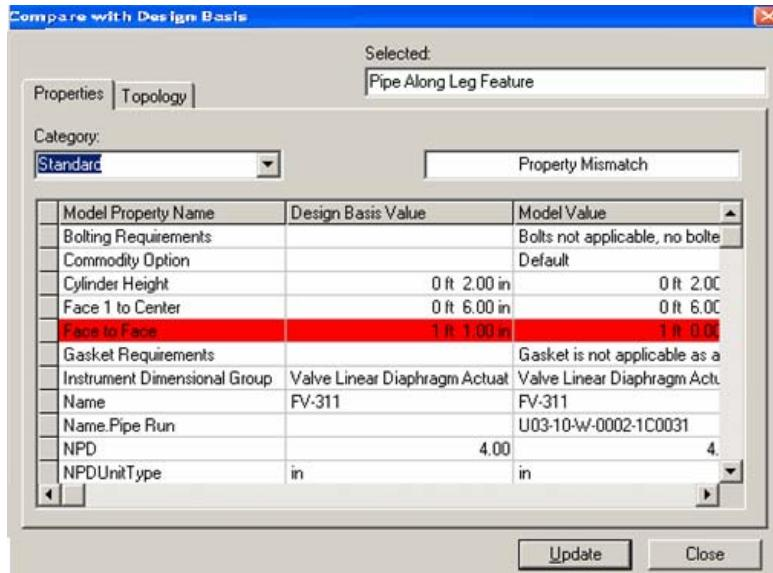

Figure 74: FV-311 Compare with Design Basis Dialog Box
6. The **Compare with Design Basis** dialog box appears. The **Face to Face** row is highlighted in red, as shown in Figure 74. This indicates that the **Face to Face** dimension property of the instrument does not match the design basis.